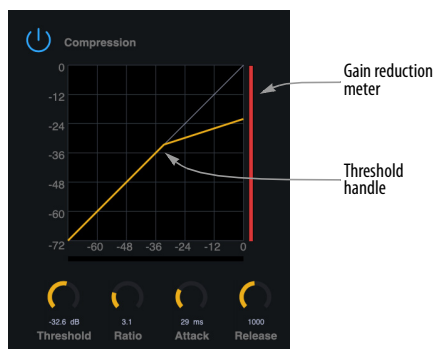

Figure 6-2: The Compressor.
All analog input channels (items 1 and 2 on page 37) provide a *Compressor* (Figure 6-2).
The *Compressor* lowers the level of the input when amplitude of the signal is above the Threshold. The amount of attenuation is determined by the *Ratio* and the input level. For example, if the input is 6 dB above the *Threshold* and the *Ratio* is 3:1, the compressor will attenuate the signal to 2 dB above the Threshold. When the input level goes above the threshold, the attenuation is added gradually to reduce distortion. The rate at which the attenuation is added is determined by the *Attack* parameter. Likewise, when the input level falls below the Threshold, the attenuation is removed gradually. The rate at which the attenuation is removed is determined by the *Release* parameter. Long Release times may cause the audio to drop out briefly when a soft passage follows a loud passage. Short Release times may cause the attenuation to “pump”, a term used to describe the sound of the compressor when the average input level quickly fluctuates above and below the Threshold. These issues can be addressed by adjusting the parameters. The *Gain reduction meter* (Figure 6-2) displays the attenuation applied by the compressor.